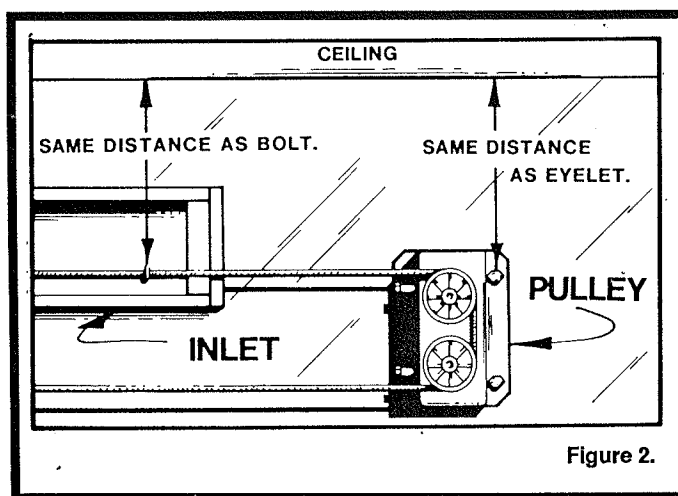

Figure 2.
1. Mount a 6074 Cable Adjustment Pulley at each end of the row of inlets, in line with the eyebolt on the inlet doors, as shown in Figure 2.